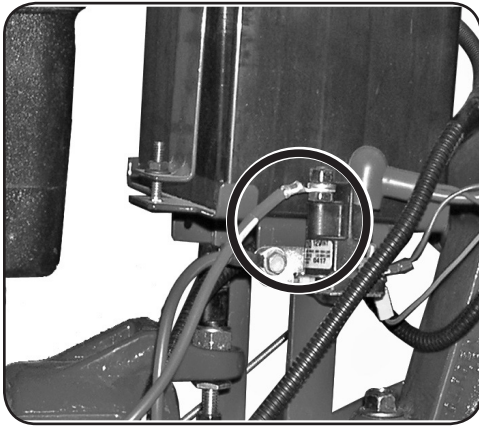

Figure 3-5
3. Connect the tiller's main harness connection to the neutral safety switch receptacle. See Figure 3-5.